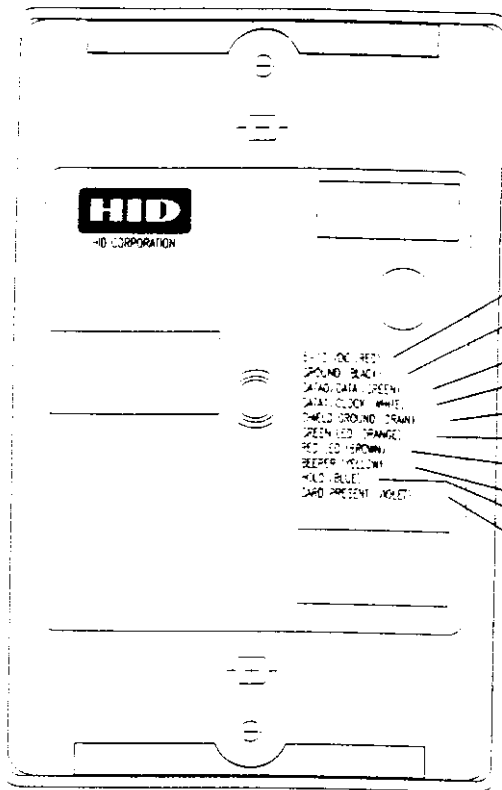

Figure 2
The numbering for the terminals is shown on the back label and in Figure 2
4. Connect the Reader & the Host together. Refer to Figure 2 (nonhazardous installation section).